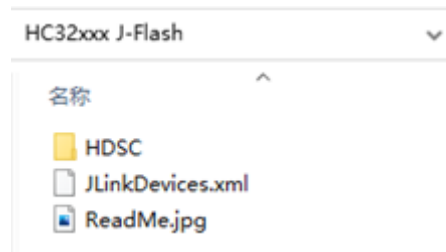

Figure 3-5-2-1 HC32xxx J-Flash Patch file
1. Decompress the "HC32xxx J-Flash.zip " patch package, as shown in Figure 3-5-2-1.